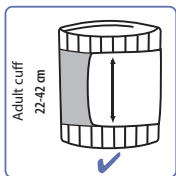

Fig. 5
6. This cuff is suitable for use if the arrow heads fall within the stripe pattern on the other side of the cuff when the cuff is tightened around your arm (Fig. 5).